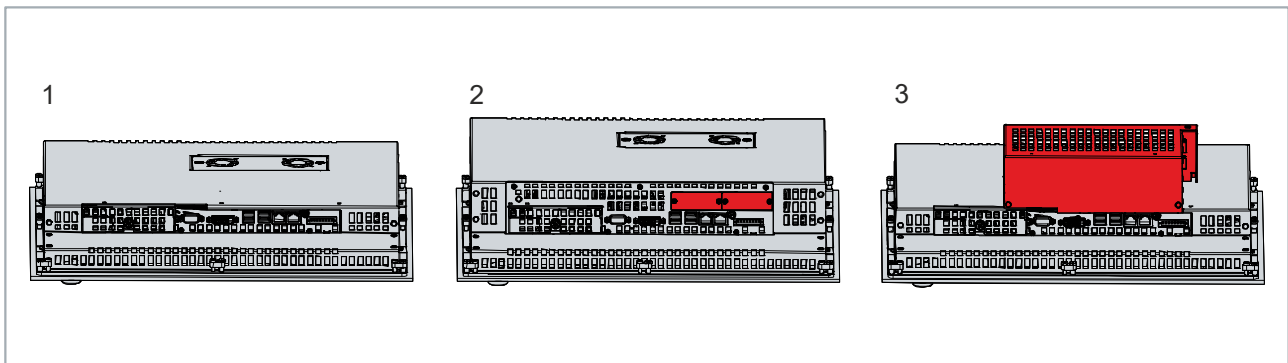

Fig. 1: Comparison of device extensions
Figure 1 shows an example of a CP62xx without extension (1), with PCIe® module slots (2) and with PCI/PCIe® plug-in card slots (3).